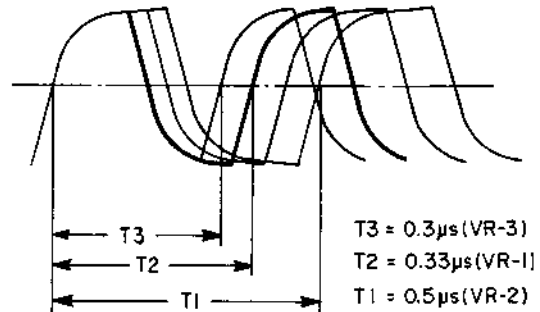

Fig. 2-27
- c) Adjust VR2 so that T_1 in Fig. 2-27 is $0.5 \mu\text{s}$ (2 MHz).
- d) Adjust VR1 so that T_2 in Fig. 2-27 is $0.33 \mu\text{s}$ (3 MHz).